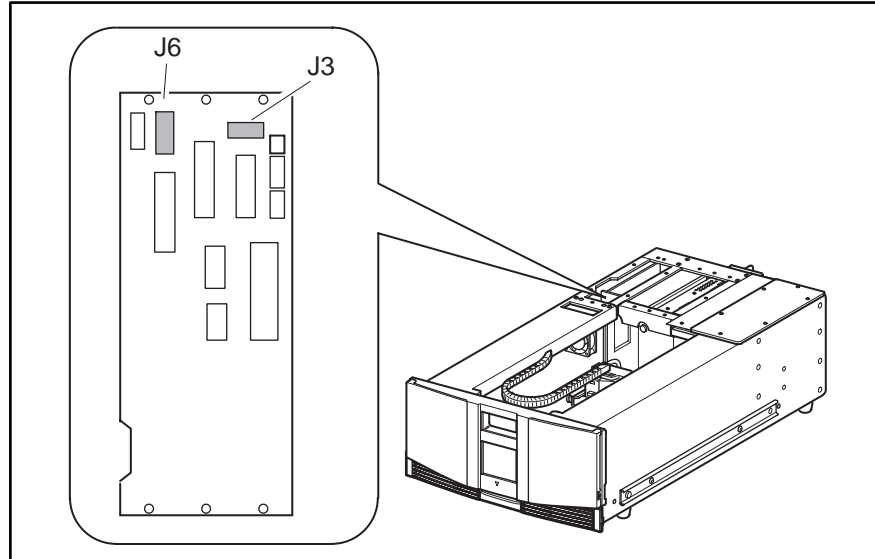

Figure 2-37: J6 and J3 Removal
3. Remove the cables at J6 and J3 on the card cage/backplane assembly (see Figure 2-37).
20. Replace the cables at J3 and J6 on the card cage/backplane assembly (see Figure 2-37).